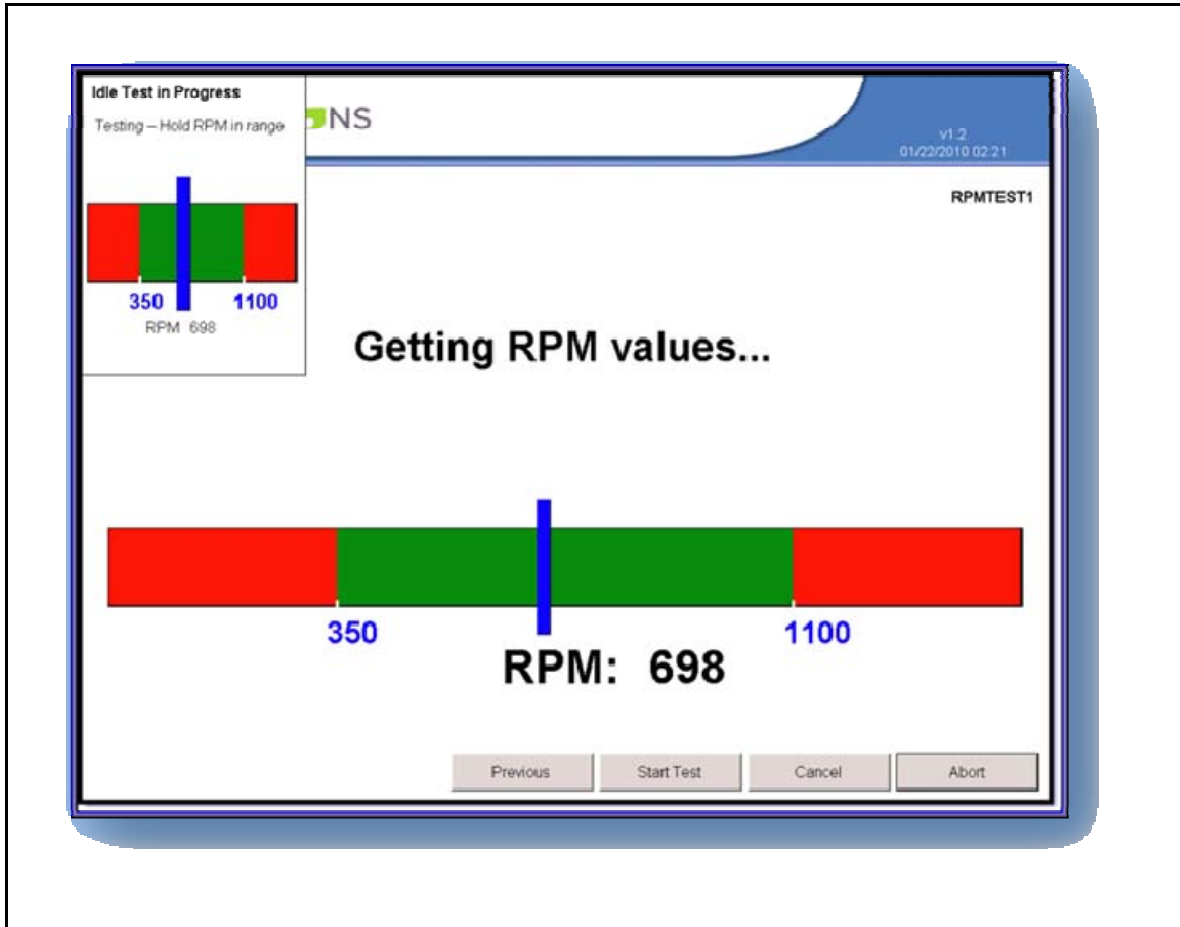

Figure 4-4: Idle Test RPM Capture
| Figure 4-4: Idle Test RPM Capture .....                   | 8  |
- While performing the Idle RPM capture (Fig 4-4 below), if the RPM readings are not stable (Out of the green zone more than 3 seconds) or no readings at all, please unhook the clamp on probe, rotate it 180°, and reconnect the probe.